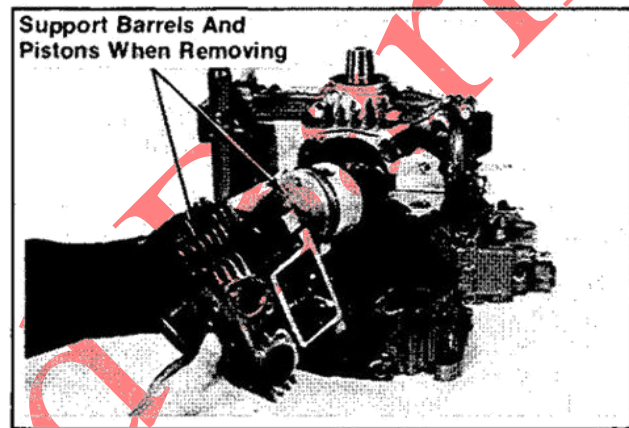

Figure 9-29. Removing Cylinder Barrels.
3. Support the weight of barrels with hands, and carefully pull the barrels from the studs and pistons. Refer to Figure 9-29.